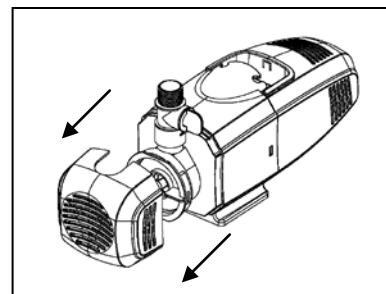

Fig. 9
3. Remove the front cover from the pump. Fig. 9